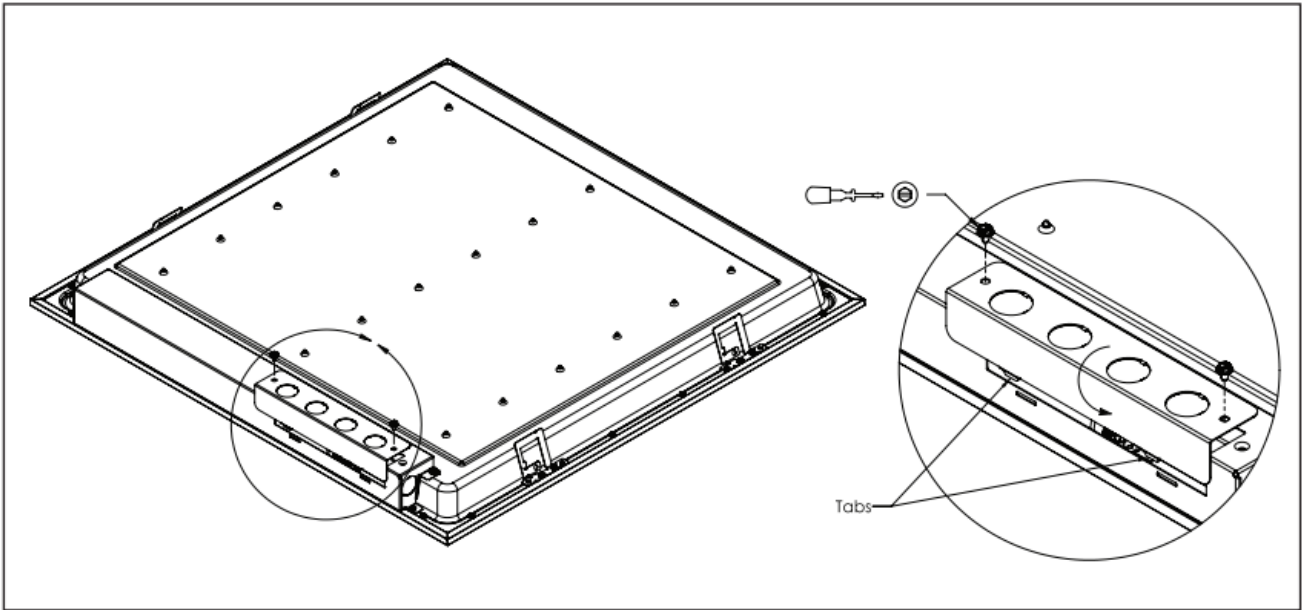

Figure 1.
3. Locate the fixture junction box cover and remove it (Fig. 1).
NOTE: Fixture weights are below. Ensure grid location is rated for fixture weight before moving to the next step. If unsure use cable to support the fixture to structure above the mixture using the holes in the alignment clips. (Fig 1).